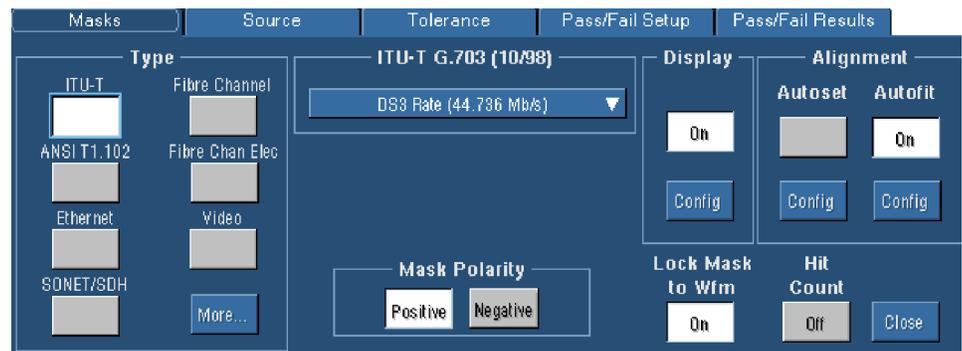

Figure 4: Mask control window (half screen)
4. Verify that a Mask type other than User Mask appears in the window (see Figure 4).